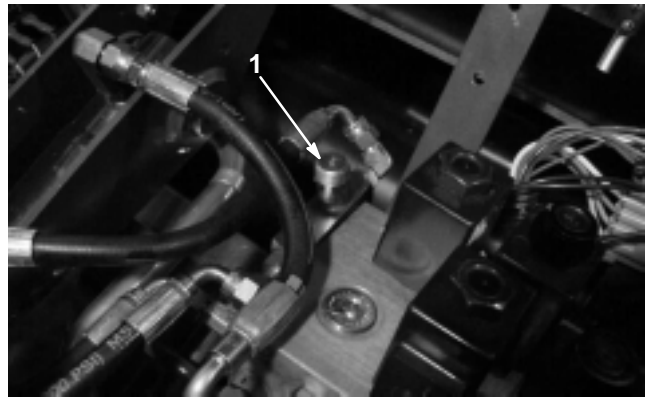

Figure 54
The cutting unit lift/drop circuit is equipped with a flow control valve (Fig. 54). This valve is preset at the factory at approximately 3 turns open, but an adjustment may be required to compensate for differences in hydraulic oil temperatures, mowing speeds, etc. If an adjustment is required, proceed as follows:
1. Raise the seat and locate the flow control valve for the center pull frame (Fig. 54) which is located next to the hydraulic manifold.